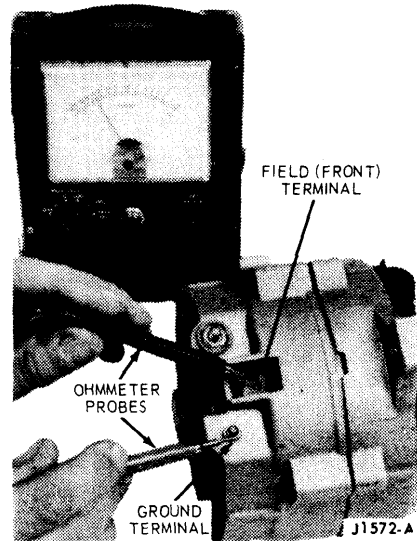

FIG. 9 Field Open or Short Circuit Test
1. Contact the alternator field terminal with one probe and the ground terminal with the other probe (Fig. 9). Then, spin the alternator pulley. The ohmmeter reading should be between 4 and 250 ohms, and should fluctuate while the pulley is turning.